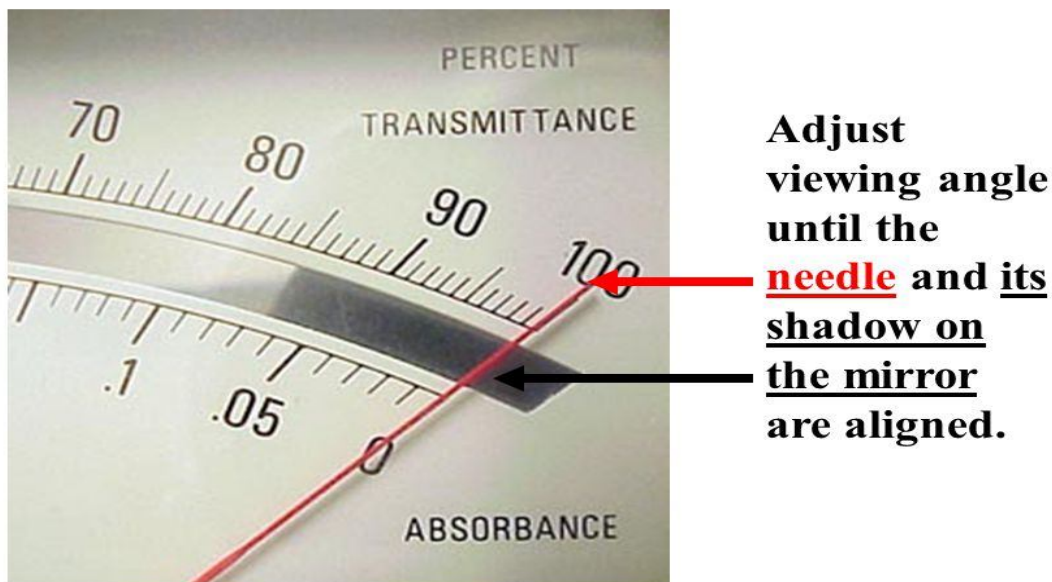

Fig 1.1 Parallax error: Caused Due to Taking Measurement from Wrong Viewing Angle
1.1.1 Gross Error: This is an error in electronic measurement that occurs due to bad measurement practices. It is largely a human factor error, which may be caused for example, due to Parallax Error (or Misreading Error) that happens when taking a reading from a scale at a wrong angle instead of looking directly over the scale as illustrated in Figure 1.1. It can be seen that only the reading taken directly over the scale is correct (at a position where the pointer and